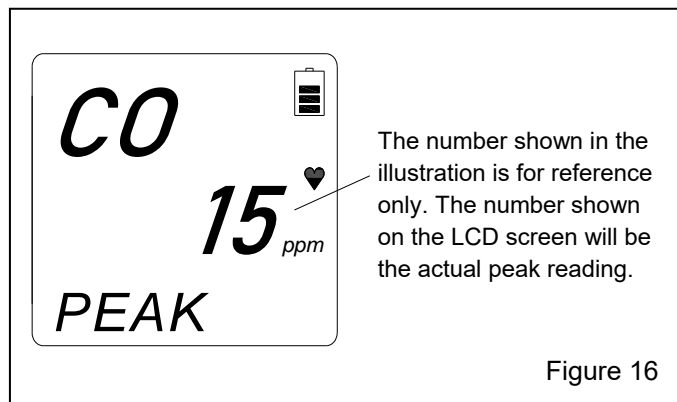

Figure 16
**4.3.5.4** Press and release POWER/MODE until PEAK appears in the lower-left corner of the LCD screen, as shown in Figure 16.